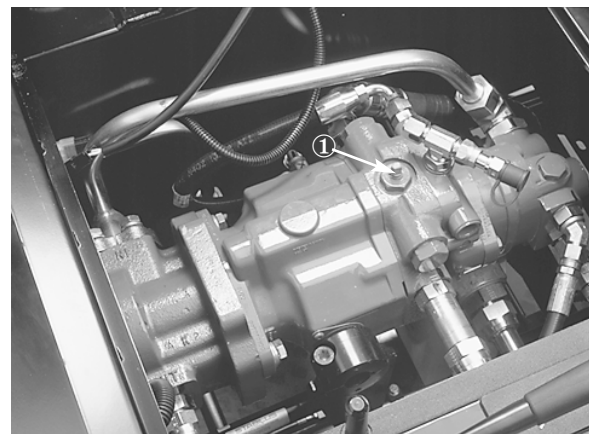

Figure 18
4. Turn the by-pass valve 90 degrees (Fig. 18). Opening the valve opens an internal passage in the traction pump, bypassing hydraulic oil. Because the oil is by-passed, the traction unit can be moved without damaging the hydraulic system.